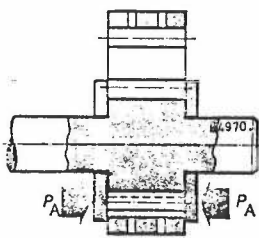

Fig. 2.2 Illustration of IPH axial compensation
**IPH axial compensation** (see figure 2.2)